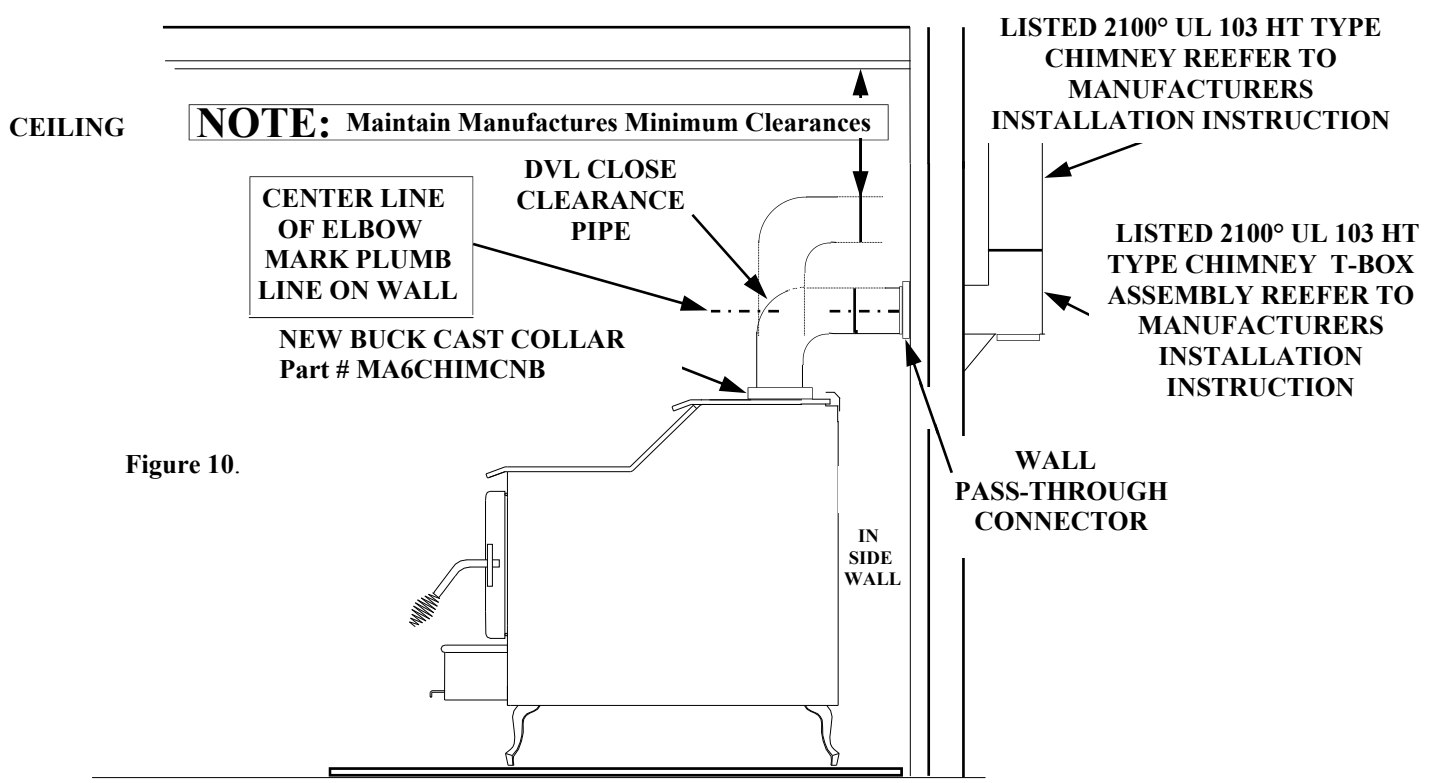

Figure 10.
(See Page 15, Figure 10.)
3. Measure up so there will be at least 1/4" rise per foot of horizontal connector pipe, maintaining clearances to the ceiling as noted in (Page 15, Figure 10). This will give you the center of the hole for the chimney penetration.
5. Connect the DVL close clearance pipe to the tee-box per manufacturer's instructions,. DVL close clearance pipe is to be connected with (3) sheet metal screws or rivets to New Buck Cast Collar, after New Buck Cast Collar Part# MA6CHIMCNB has been attached to stove. (See Page 15 ,Figure 10.).